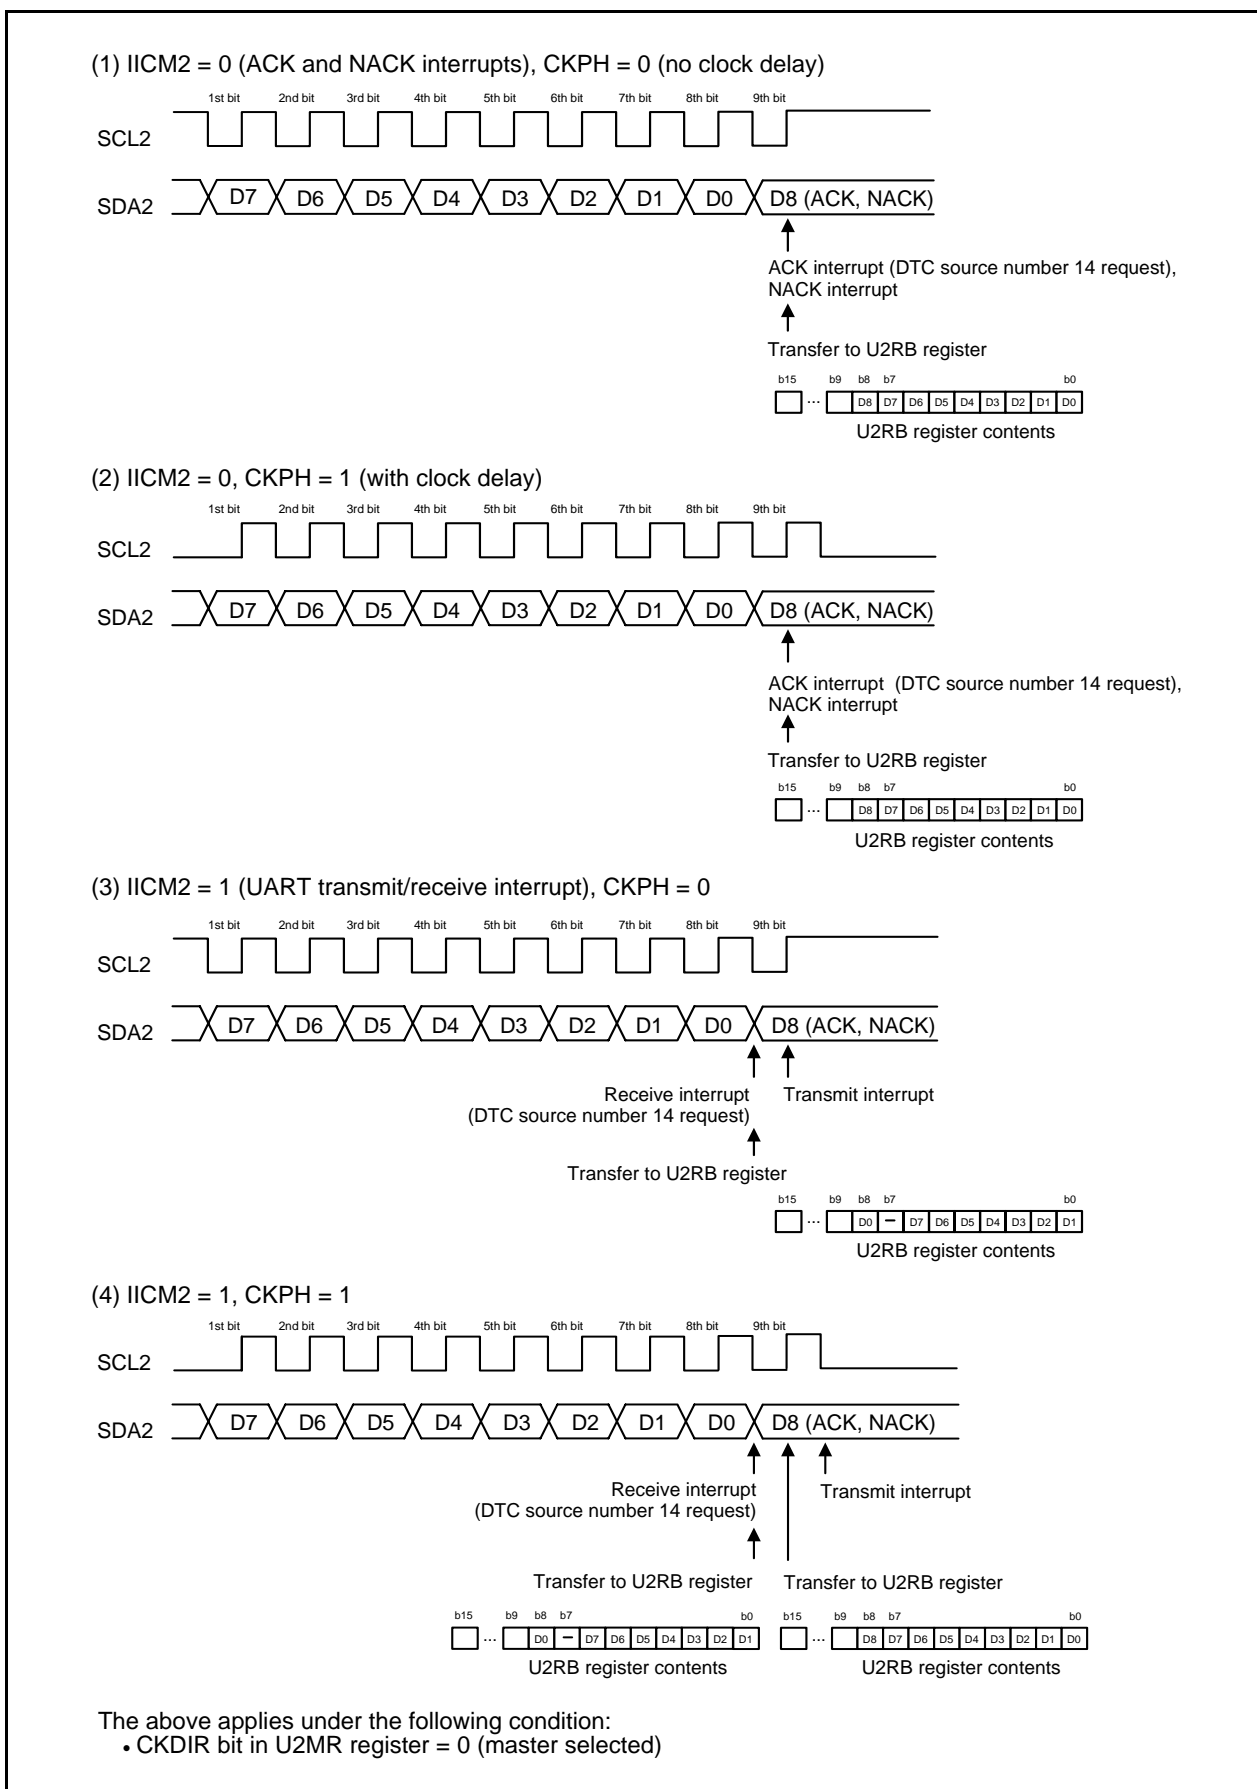

Figure 25.14 Transfer to U2RB Register and Interrupt Timing
6. Refer to **Figure 25.14 Transfer to U2RB Register and Interrupt Timing**.
The transfer clock is used to transmit and receive data as is shown in **Figure 25.14 Transfer to U2RB Register and Interrupt Timing**.